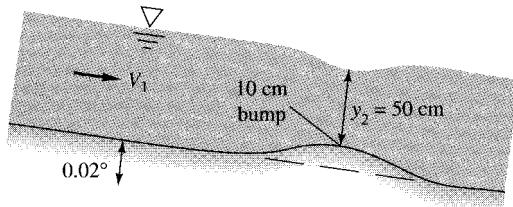

Fig. P10.59
**10.59** Uniform water flow in a wide brick channel of slope 0.02° moves over a 10-cm bump as in Fig. P10.59. A slight depression in the water surface results. If the minimum depth over the bump is 50 cm, compute (a) the velocity over the bump; and (b) the flow rate per meter of width.